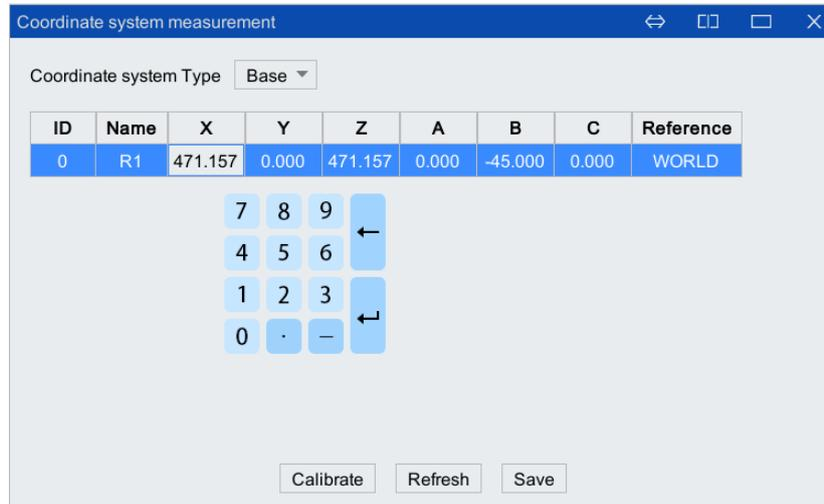

Figure 5-89 Input method setting base coordinate system page
Set the base coordinate system by input, refer to Figure 5-89. The table in the figure shows the position of the origin of each base coordinate system and the posture of the coordinate system.
Step1.Select "Base Coordinate System" in [Coordinate System Type] in Figure 5-89 above.
Step1.Select "Base Coordinate System" in [Coordinate System Type] in Figure 5-89.